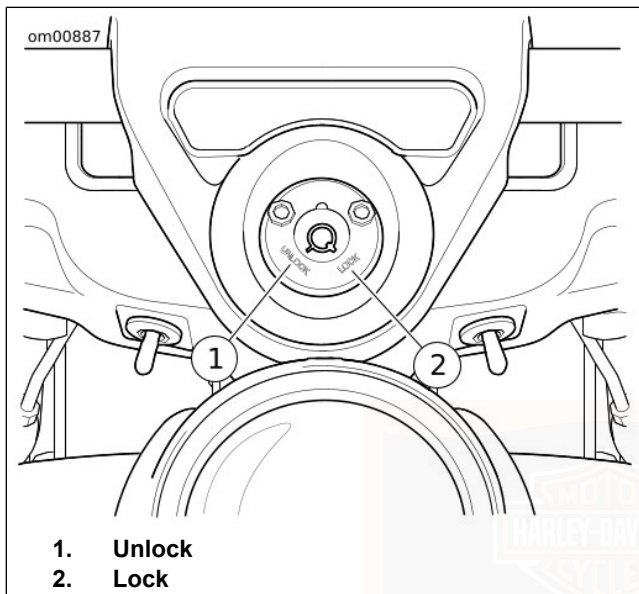

Figure 5. Fork Lock: FLHR/FLHRC
See Figure 5. On FLHR/FLHRC models, the fork lock is located at the top of the steering head, behind the headlamp nacelle and inset in the handlebar clamp shroud.
2. See Figure 5. Insert key and turn key counterclockwise to LOCK position. Remove key.